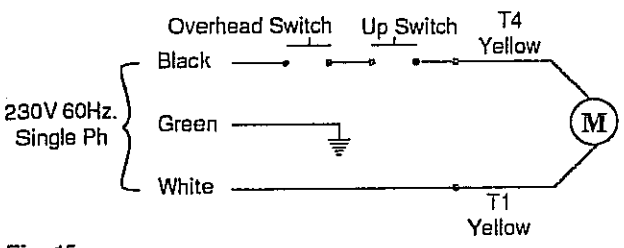

Fig. 15
**13. Overhead switch:** Check overhead switch assembly to assure that switch bar is depressing switch plunger sufficiently to actuate the switch. The overhead switch is wired normally open, see Fig 15. Lift will not operate until weight of switch bar is depressing switch plunger.
**14. Electrical:** Have a certified electrician run 208-230 volt single phase 60Hz. power supply to motor Fig. 15&16. Size wire for 25 amp circuit. See Motor Operating Data Table.